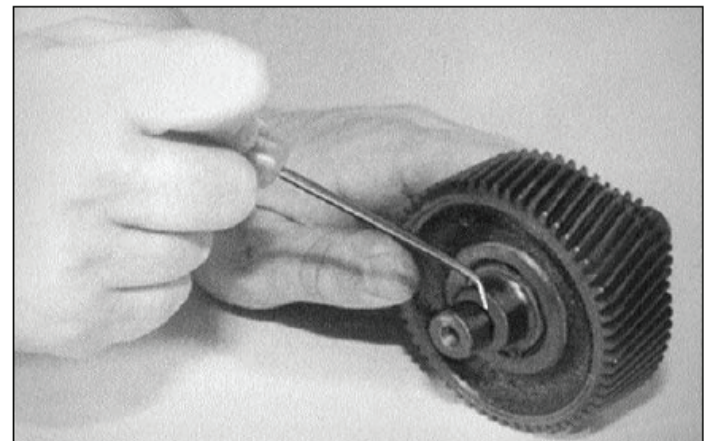

Figure 7-24. Removing O-rings from Intermediate Shaft & Gear
20. Remove O-rings (10) at each end of intermediate shaft on bearing shoulders (Figure 7-24).
21. Clean the axle housing and carrier cover (18) with lint-free rags. Remove all traces of old silicone sealant from sealing surface of cover and housing.